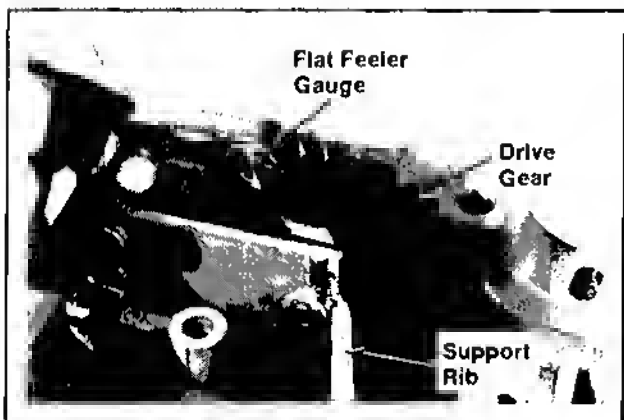

Figure 11-3. Measuring Oil Pump Drive Gear End Play.
4. Measure pump drive gear end play with a flat feeler gauge. Refer to Figure 11-3. Recommend end play is .010/.029". Add one (1) additional shim spacer, if necessary, to bring end play within range.